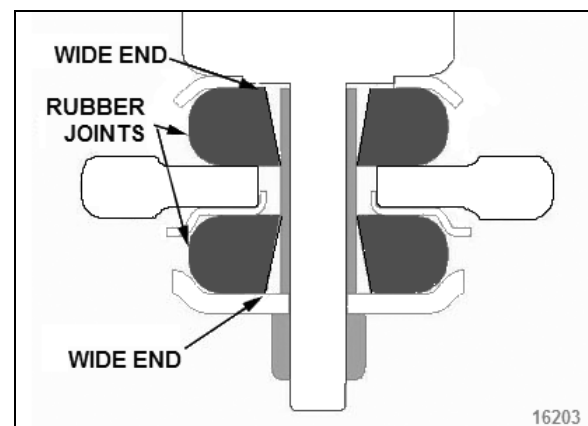

FIGURE 40: LOWER SHOCK MOUNTING BUSHINGS
3. On the lower mounting, take care to install the rubber joints with the wide end of the tapered hole as shown in Figure 40.